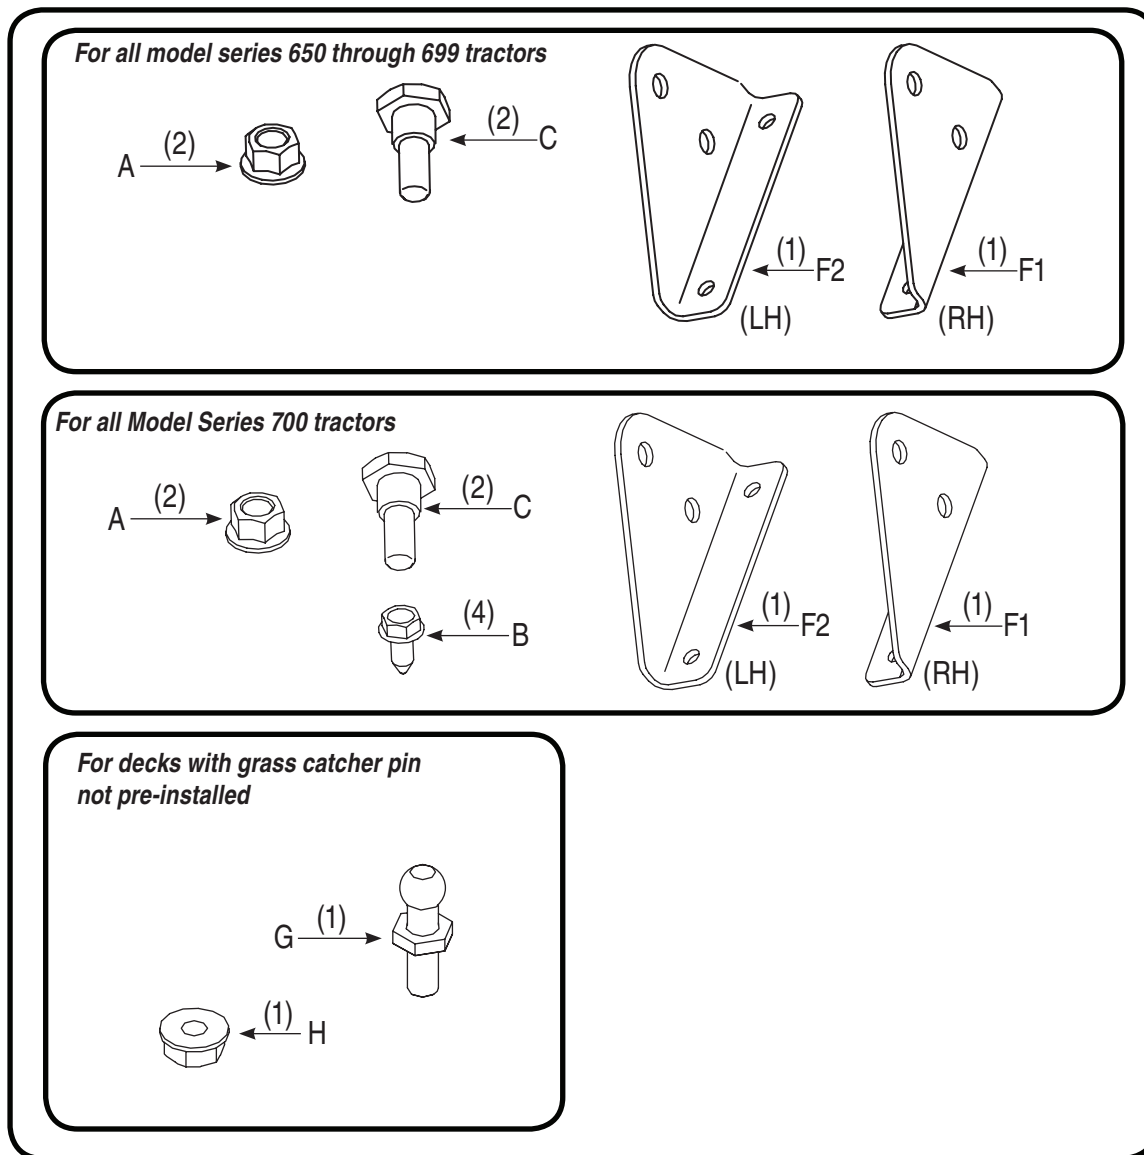
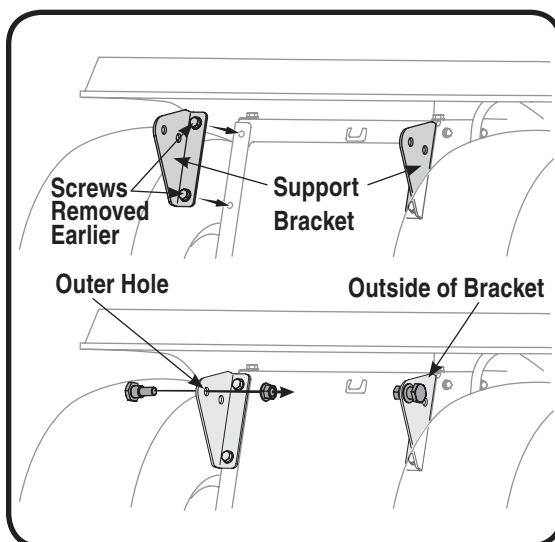

Figure 2-2
Figure 3-4
2. Place the right hand grass catcher support bracket (F1 from Fig. 2-2), in position, with the wide end on top and the narrow end pointing down as shown in Fig. 3-4.
3. Secure the support bracket to the tractor frame with two self-tapping screws earlier removed. Refer to Fig. 3-4. Repeat on the other side using part F2 from Fig. 2-2.
4. Insert a shoulder bolt (C in Fig. 2-2) through a bell washer, (B in Fig. 2-2) and insert the bolt from the outside of the bracket through the outer hole on the support bracket. Secure with a nut (A in Fig. 2-2). See Fig. 3-4 for details. Repeat on other side.
For some tractor models, this clevis pin is too large. Use a smaller clevis pin (E in Fig. 2-2) in its place with the same hairpin clip.
NOTE: For some tractor models, this clevis pin is too large. Use a smaller clevis pin (E in Fig. 2-2) in its place with the same hairpin clip.